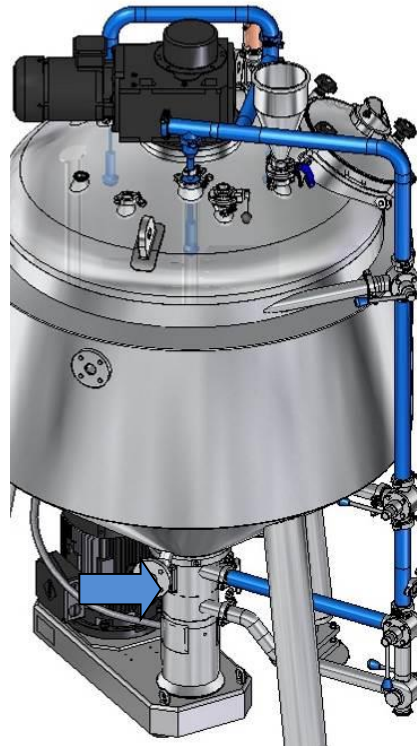

Fig 6.8. Circulation without CIP shearing
- Circulation without CIP shearing (Fig 6.8)